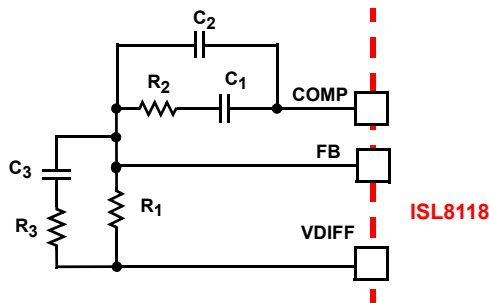
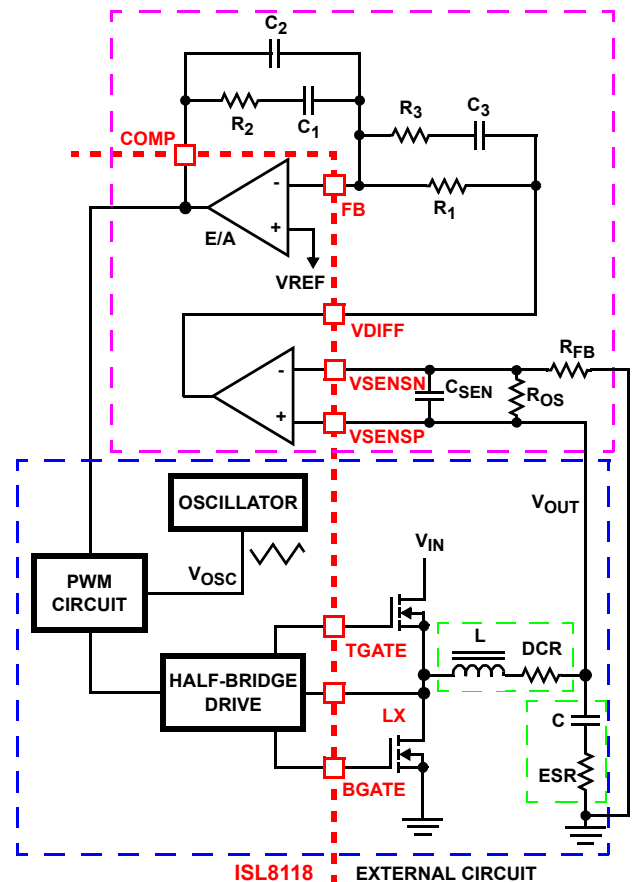

FIGURE 9. COMPENSATION CONFIGURATION FOR ISL8118 WHEN USING DIFFERENTIAL REMOTE SENSE
FIGURE 10. VOLTAGE-MODE BUCK CONVERTER COMPENSATION DESIGN
The ISL8118 single-phase converter is a voltage-mode controller. This section highlights the design considerations for a voltage-mode controller requiring external compensation. To address a broad range of applications, a type-3 feedback network is recommended (see Figure 9).
Figure 10 highlights the voltage-mode control loop for a synchronous-rectified buck converter, when using an internal differential remote sense amplifier. The output voltage (V_{OUT}) is regulated to the reference voltage, V_{REF} , level. The error amplifier output (COMP pin voltage) is compared with the oscillator (OSC) triangle wave to provide a pulse-width modulated wave with an amplitude of V_{IN} at the LX node. The PWM wave is smoothed by the output filter (L and C). The output filter capacitor bank's equivalent series resistance is represented by the series resistor ESR.
The compensation network consists of the error amplifier (internal to the ISL8118) and the external R_1 - R_3 , C_1 - C_3 components. The goal of the compensation network is to provide a closed loop transfer function with high 0dB crossing frequency (F_0 ; typically 0.1 to 0.3 of F_{SW}) and adequate phase margin (better than 45°). Phase margin is the difference between the closed loop phase at F_{0dB} and 180°. The equations that follow relate the compensation network's poles, zeros and gain to the components (R_1 , R_2 , R_3 , C_1 , C_2 , and C_3) in Figures 9 and 10. Use the following guidelines for locating the poles and zeros of the compensation network:
1. Select a value for R_1 (1kΩ to 10kΩ, typically). Calculate value for R_2 for desired converter bandwidth (F_0). If setting the output voltage to be equal to the reference set voltage as shown in Figure 9, the design procedure can be followed as presented. However, when setting the output voltage via a resistor divider placed at the input of the differential amplifier (as shown in Figure 10), in order to compensate for the attenuation introduced by the resistor divider, the below obtained R_2 value needs be multiplied by a factor of $(R_{OS} + R_{FB})/R_{OS}$. The remainder of the calculations remain unchanged, as long as the compensated R_2 value is used.
A small capacitor, C_{SEN} in Figure 10, can be added to filter out noise, typically C_{SEN} is chosen so the corresponding time constant does not reduce the overall phase margin of the design, typically this is 2x to 10x switching frequency of the regulator. As the ISL8118 supports 100% duty cycle, d_{MAX} equals 1. The ISL8118 also uses feed-forward compensation, as such V_{OSC} is equal to 0.16 multiplied by the voltage at the VFF pin. When tying VFF to V_{IN} , Equation 9 simplifies to: